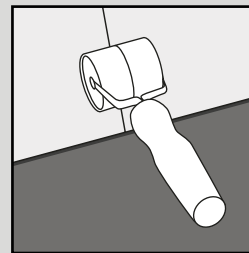
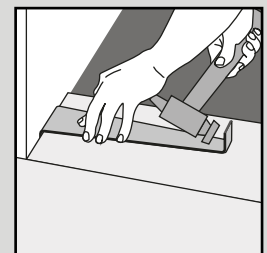

Fig. 4
Fig. 5
- Continue to install planks across the room until the row is complete using a hand roller to assist (Fig. 4). Only if necessary, use a rubber mallet and an offcut of the product to gently tap the product. A pull bar can be used to pull the product together around the edges of the room (Fig. 5).